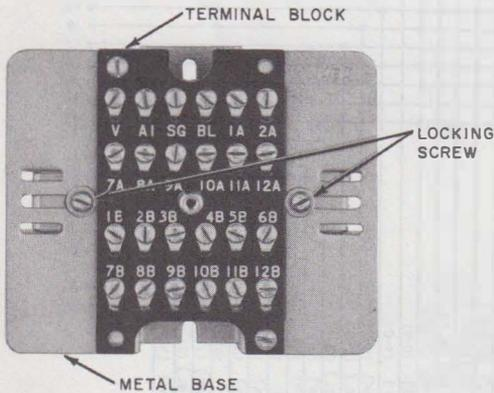

Fig. 4—149A (MD) Adapter, Cover Removed
- Consists of terminal block (Fig. 4), one KS-16671 L1 plug, and one KS-16672 L1 connector assembled on a metal base.